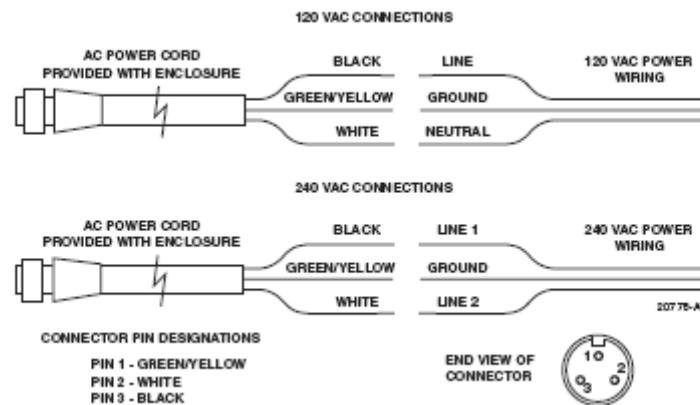

Figure 15. AC Power Cable Connections
5. Connect the AC power cable wires to the AC power supply wires. Refer to Figure 15 to identify the color code and wire designations.